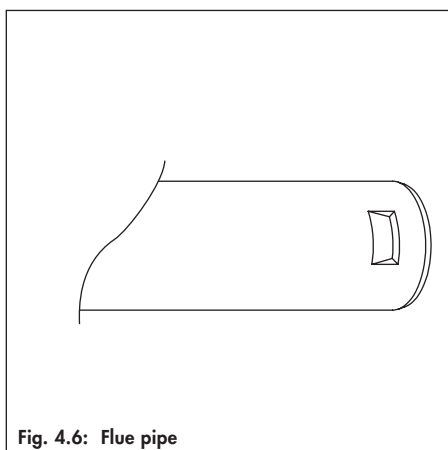

Fig. 4.6: Flue pipe
☞ Please note: The catch on the top of the variable terminal must lock firmly into the notch in the flue duct (fig. 4.6).
- ☞ Please note: The catch on the top of the variable terminal must lock firmly into the notch in the flue duct (fig. 4.6).